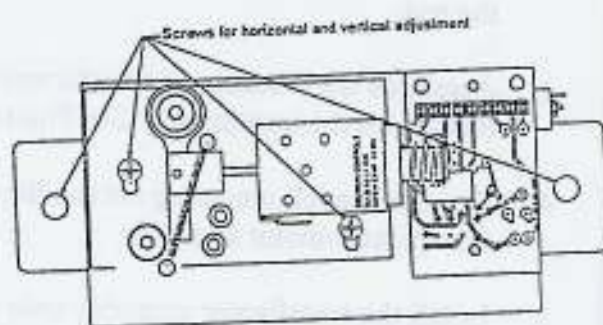

Figure 3
13. With the door in the fully closed position, adjust the horizontal and vertical position of the Electric Lock Assembly so that the steel post is captured by the movable cam. Tighten all mounting nuts and secure all loose wires. See Figure 3.